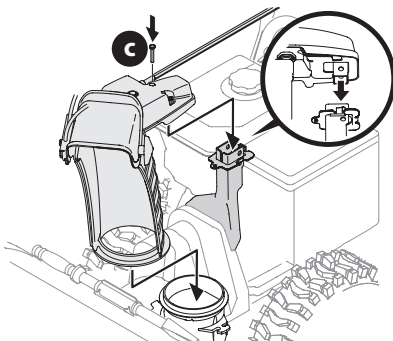

Figure 21
3. Place chute assembly onto chute base and ensure chute control rod is positioned above lower handle. Install hex screw (c) removed in Step 1, but do not secure with wing nut at this time (Figure 21).